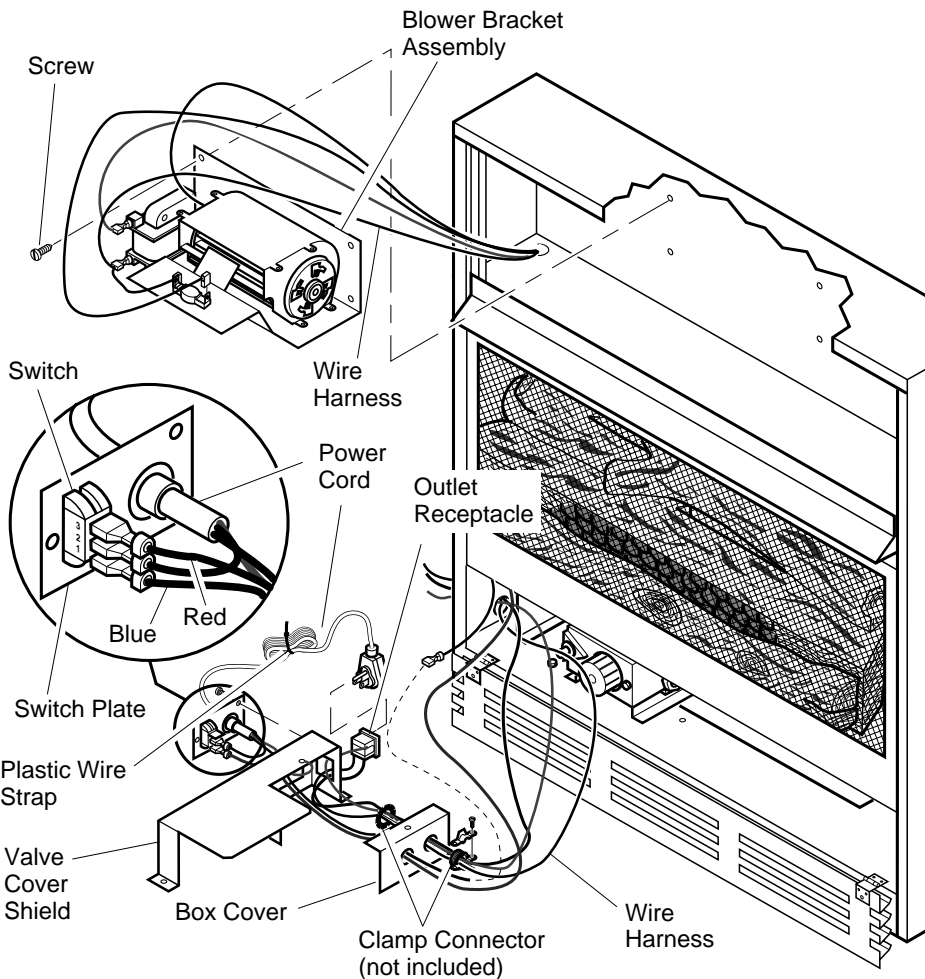

Figure 19 - Installing Blower Bracket Assembly
5. Plug power cord to the outlet receptacle (not provided) as shown in figure 19. Wind the extra cable in power cord and tie it up with the plastic wire strap (see Figure 19). Set the cable bundle between the burner bracket and outer casing, away from the burner.